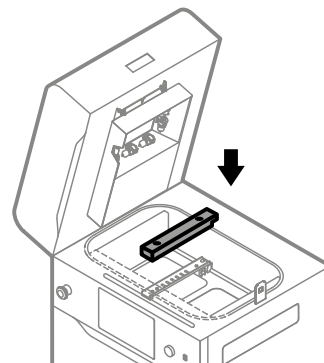

Fig. 12.17 Reinstall the black Recoater cover and tighten the screws.
27. Reinstall the black Recoater cover (fig. 12.17).